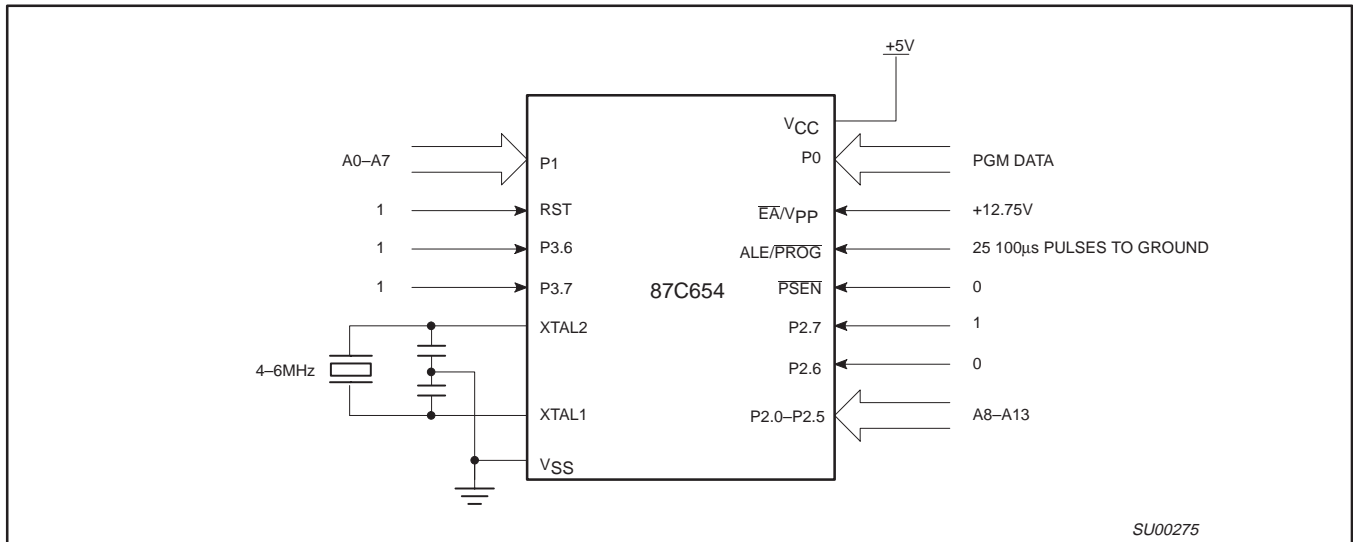
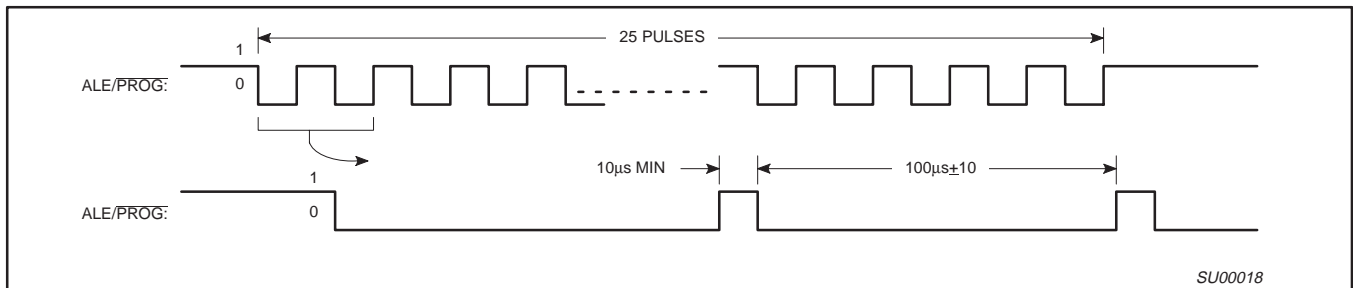
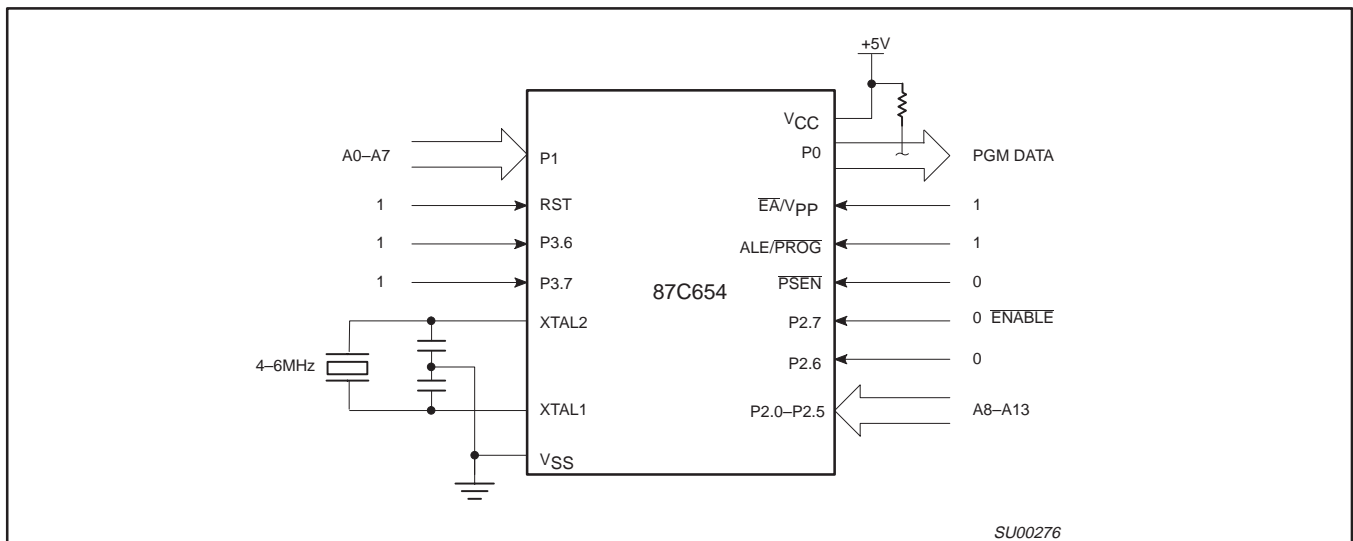

Figure 12. Programming Configuration
Figure 13. PROG Waveform
Figure 14. Program Verification
Table 4 shows the logic levels for reading the signature byte, and for programming the program memory, the encryption table, and the lock bits. The circuit configuration and waveforms for quick-pulse programming are shown in Figures 12 and 13. Figure 14 shows the circuit configuration for normal program memory verification.
The setup for microcontroller quick-pulse programming is shown in Figure 12. Note that the 87C654 is running with a 4 to 6MHz oscillator. The reason the oscillator needs to be running is that the device is executing internal address and program data transfers.
shown in Figure 12. The code byte to be programmed into that location is applied to port 0. RST, PSEN and pins of ports 2 and 3 specified in Table 4 are held at the 'Program Code Data' levels indicated in Table 4. The ALE/PROG is pulsed low 25 times as shown in Figure 13.
program verification. The address of the program memory locations to be read is applied to ports 1 and 2 as shown in Figure 14. The other pins are held at the 'Verify Code Data' levels indicated in Table 4. The contents of the address location will be emitted on port 0. External pull-ups are required on port 0 for this operation.
* FOR PROGRAMMING VERIFICATION SEE FIGURE 12.
FOR VERIFICATION CONDITIONS SEE FIGURE 14.